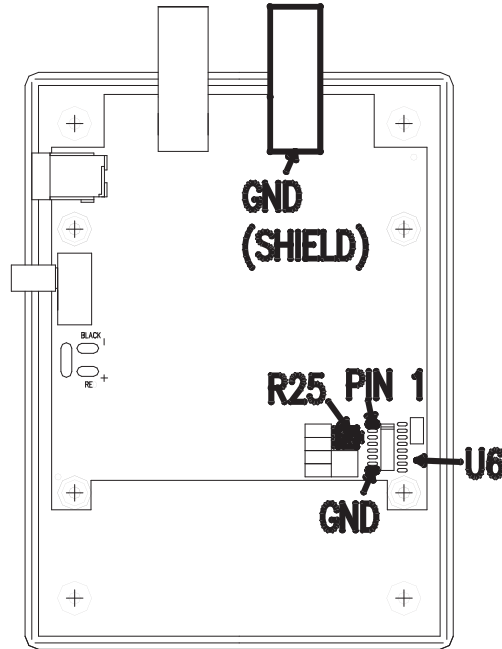

Figure 5 -
- Locate the Calibration Adjustment (R25) and Test Points (Pin 1 of U6 and ground) shown in **Figure 5** below
- Attach the DVM leads to the two Test Points shown in **Figure 5**.